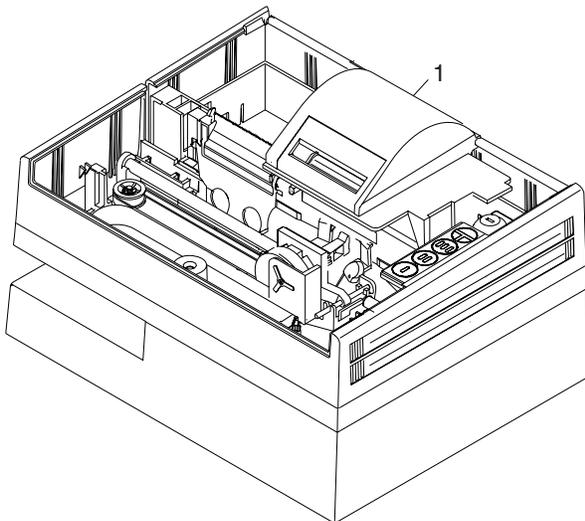

Figure 5-15. Journal Cover
- 2 Raise the journal cover. See Figure 5-15.